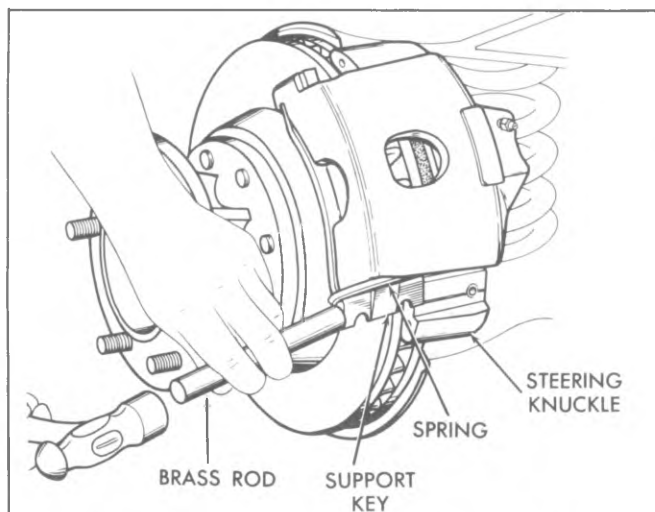

Fig. 5-35—Installing the Caliper Support Key
6. Place the spring over the caliper support key, install the assembly between the steering knuckle and lower caliper groove. Tap into place (until the key retaining screw can be installed) using a brass punch and a light hammer (fig. 5-35).